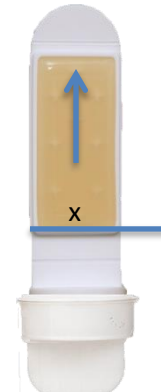

Figure 1
3. Holding the contact agar surface on a horizontal plane, deposit volume as a single drop approximately 1cm from the handle boundary (Figure 1).